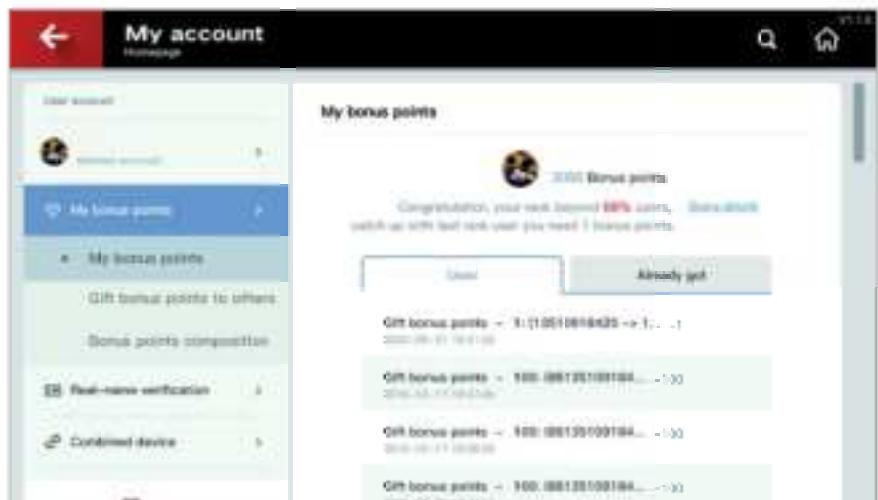

Fig.4.17
**My account:** Users can check the bonus points details, combine and unbind device and complete the real-name verification. See Fig. 4.17